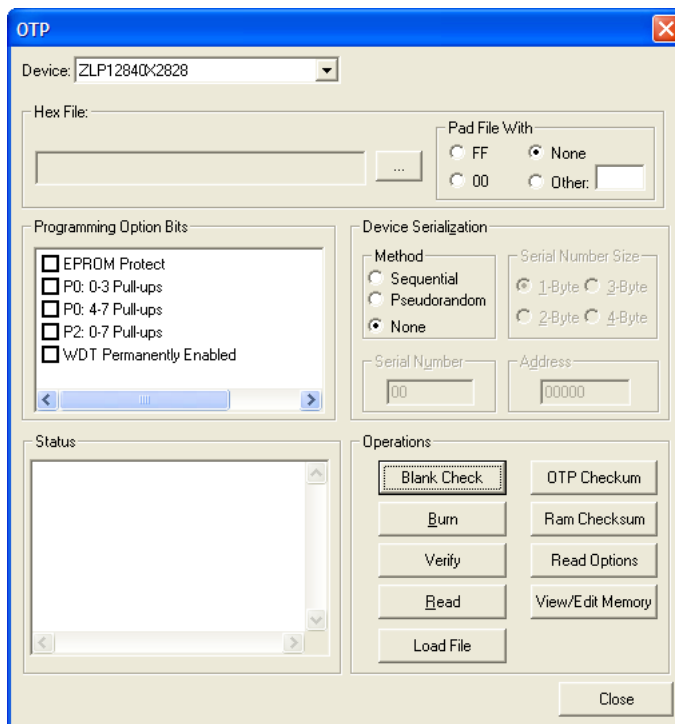

Figure 16. OTP Programming Window (Hex File Example)
7. Select Tools --> OTP Programming to open the OTP window (Figure 16).